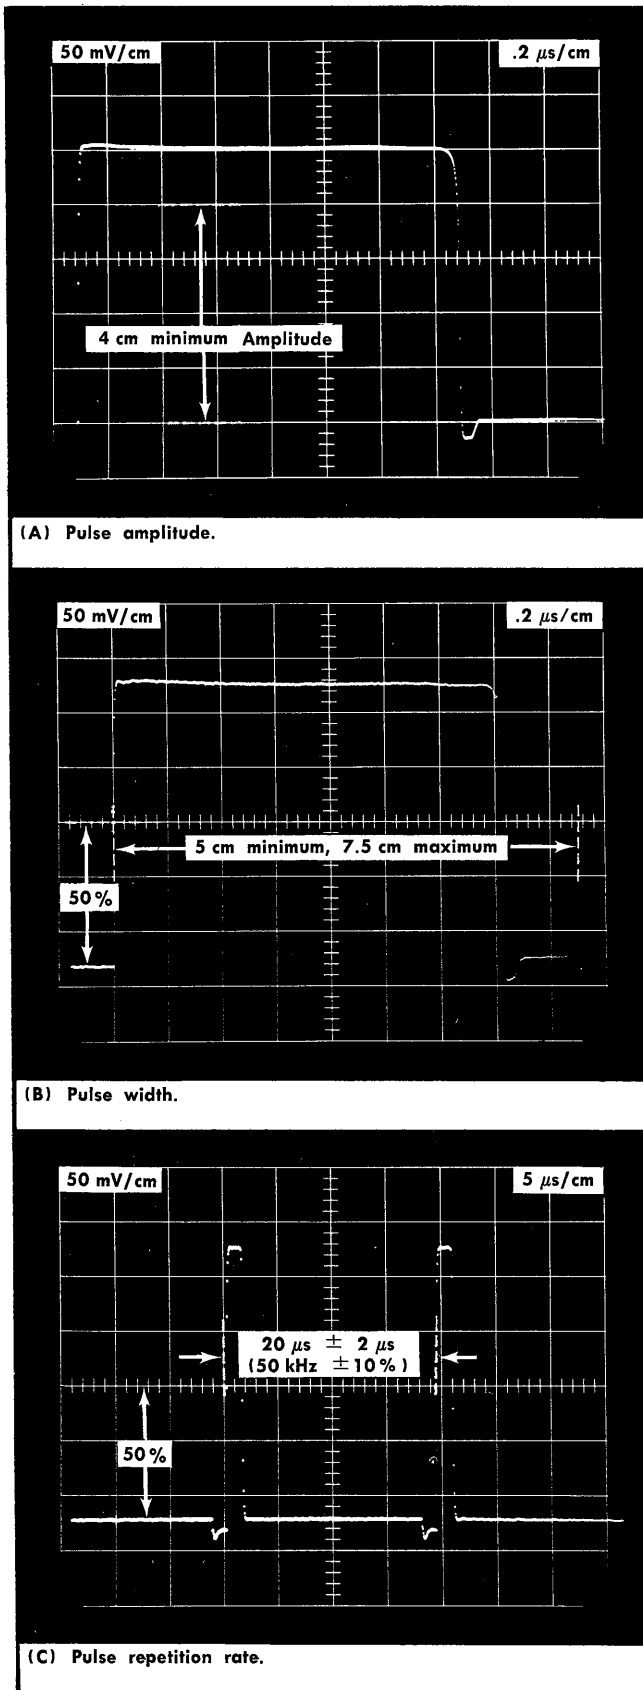

Fig. 5-12. Typical displays used in steps 13, 14 and 15.
c. Set the Equivalent Time/cm switch to .5 μs calibrated, and set the Time Position control to obtain a two-pulse display; see Fig. 5-12. Measure the time between positive-going portions of the pulses.